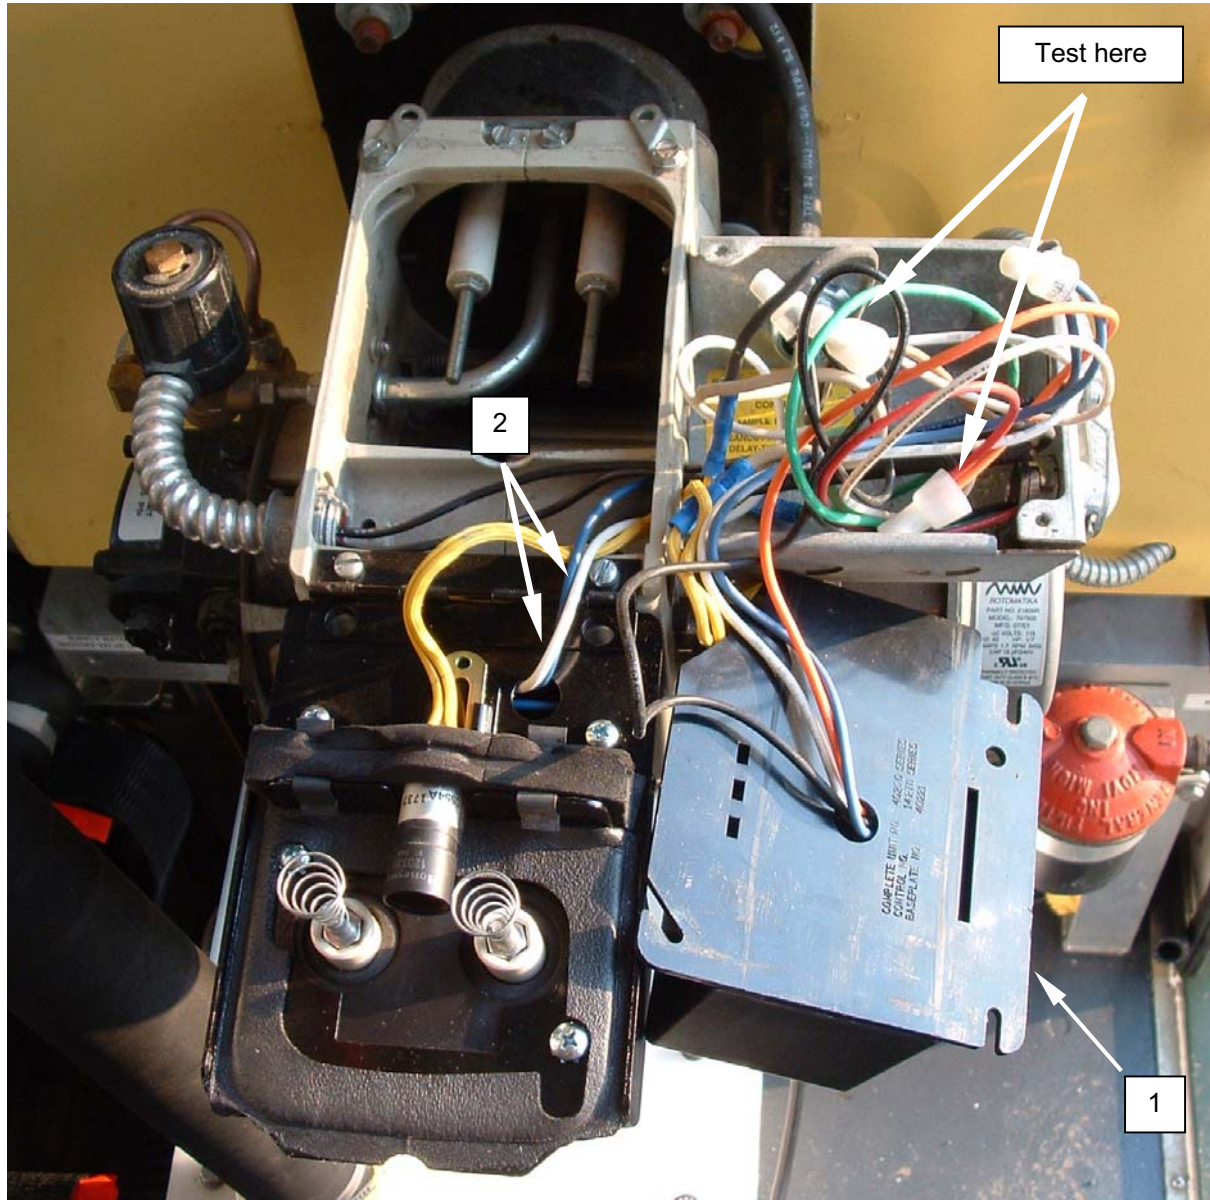

Figure 1. Test the Burner Motor.
2. Remove screw retaining burner primary control (**Figure 1, Item 1**), and remove burner primary control.
3. Tag and disconnect motor wiring at connections (**Figure 1, Item 2**).
4. Use an ohmmeter to check for 4 to 6 ohms resistance between motor leads at connections (**Figure 1, Item 2**).
8. Install burner primary control (**Figure 1, Item 1**), and retain with screw.